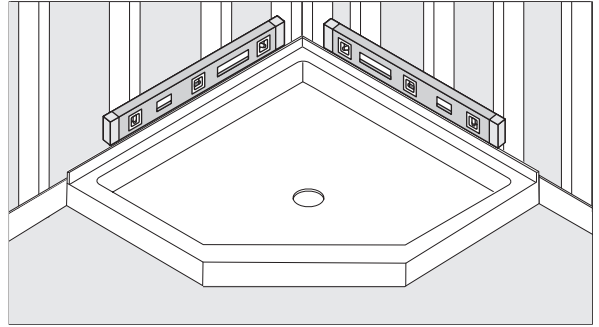

FIG 1 Check to assure base is level by placing a level in a horizontal position on top of the threshold (front rim) of the base, sides and back.
- 2 Trial fit base in prepared alcove. With base sitting flat on floor, check with level on top of base. Base should be level from front-to-back and side-to-side (**Fig 1**).